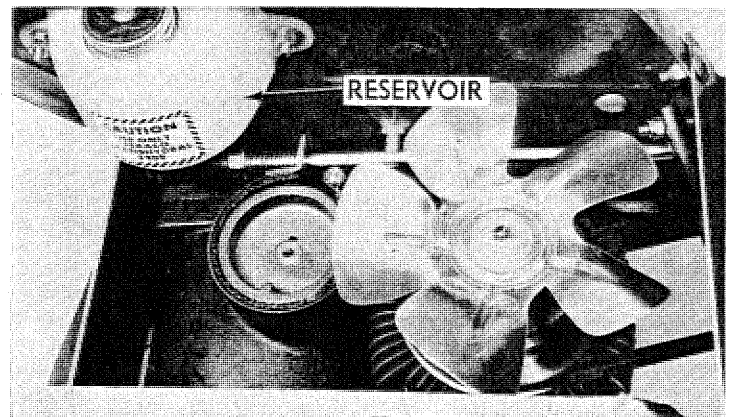

FIGURE 7
Fluid level in the reservoir should be checked after every five (5) operating hours or each time the tractor is used. Changing fluid is normally not required except for major service. Maintain level in the reservoir at  $\frac{2}{3}$  full with Wheel Horse #8827 or equivalent such as Texaco Transhydryal #2209 fluid. See Figure 7.